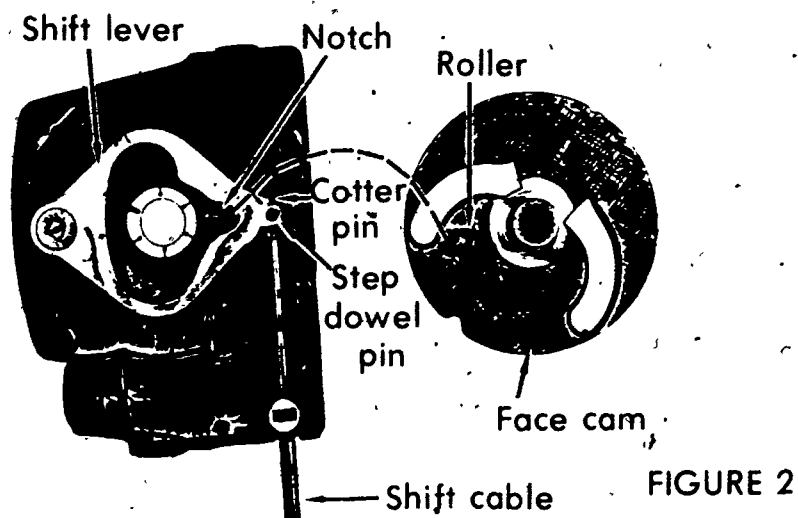

FIGURE 2
4. Lift face cam out- (Figure 2)
5. Remove cotter pin and step dowel pin from shift lever (Figure 2)
6. Remove shift cable (Figure 2)
3. Place face cam in position over shift lever (Figure 2)